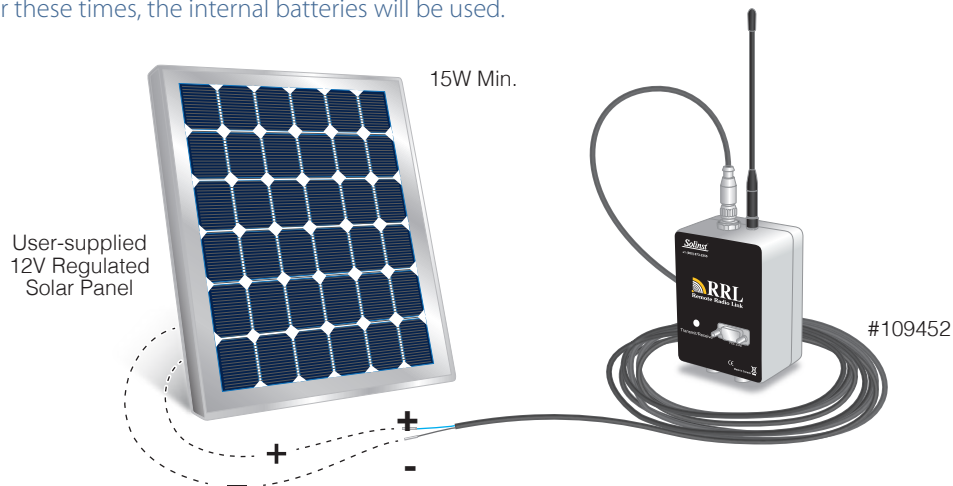

Figure 6-7 External Solar Panel Connection
- Using the Solar/12 Volt Cable Assembly (pt# 109452) to connect to a user-supplied Solar Panel (minimum 15 watt) with a built-in regulator for 12V. See Figure 6-7 for the connection diagrams.
A solar panel is connected to a RRL station using the Solar/12 Volt Cable Assembly (see Figure 6-7). The solar panel is user-supplied. The panel should output a minimum of 13V open circuit in order to effectively re-charge the batteries. As a guideline, the solar panel should be at least 15 Watts. Higher wattage panels are also suitable. The solar panel must also include a regulator to handle external battery charging cycle.